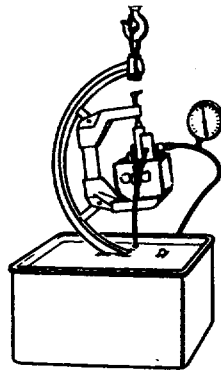

FIGURE 4-20. Hydrostatic Tester.
(24) Pressure test cylinder head.
- (a) Attach cylinder head to hydrostatic tester with water test adapter plate FIG. 4-20.